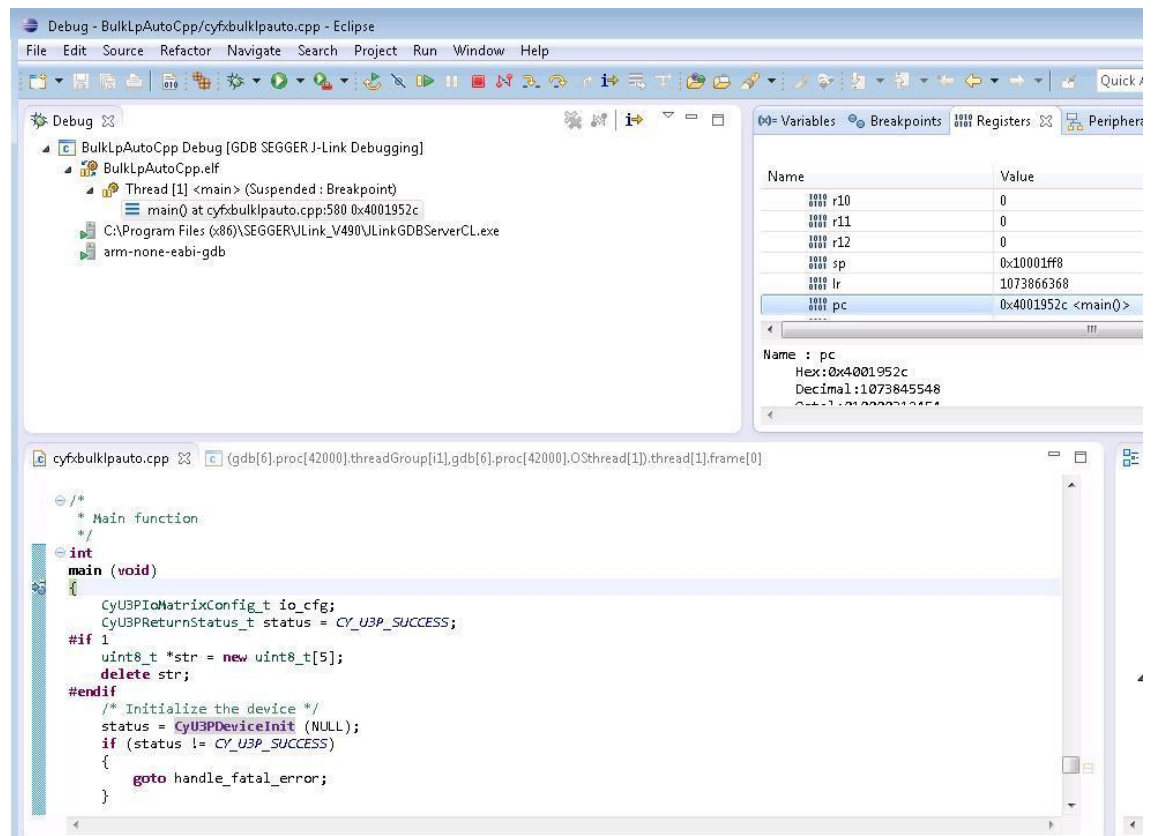

Figure 3-7: Debug session stopped at breakpoint
- Execution stops at the “main ()” function. Additional breakpoints can be placed at this stage, and the Resume, Step Into or Step Over actions can be used to run through the code. See Figure 3-7.